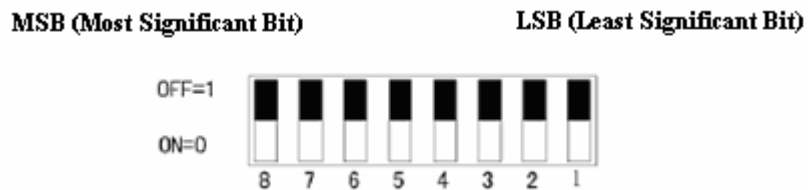

Figure 3-3-3 Binary Value Relationship between Switch Status & Station Address
- DP+ and DP- in the above figure connect 3(B) and 8(A) pin of DB9 linker inside circuit board.
- 8-bit dial switch is used to set up slave station address, ON=0, OFF=1, the binary value relationship between switch status and station address is shown in Figure 3-3-3.